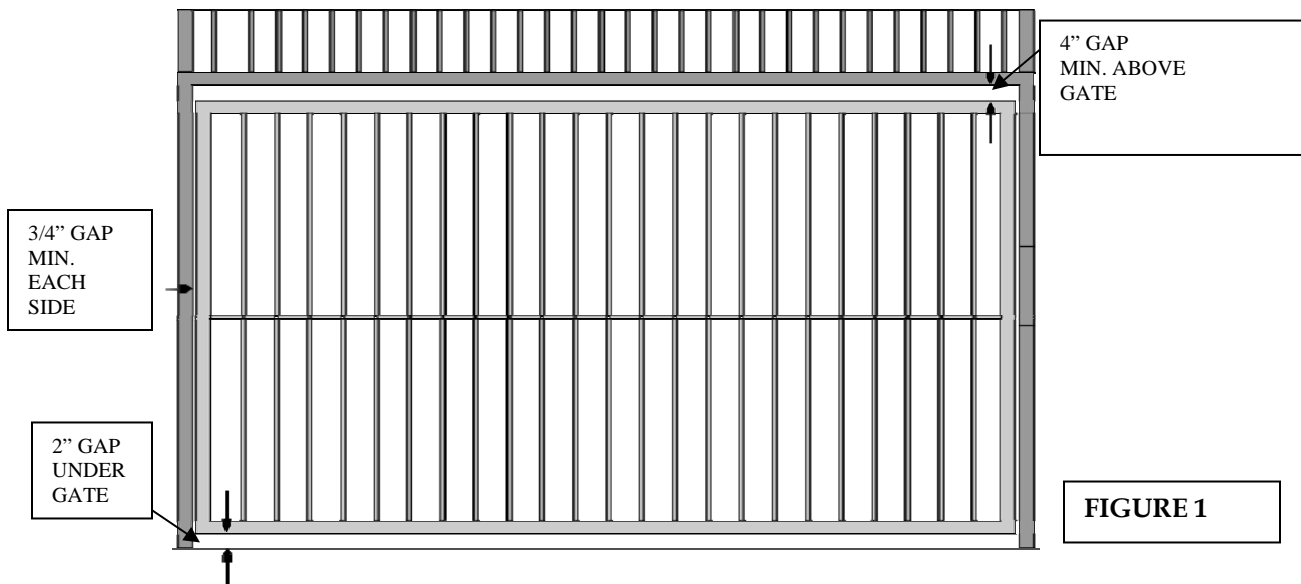

FIGURE 1
1.1. Before installing the jamb hardware you need to determine the opening, gate size and make sure the spacing shown in Fig. 1) is correct.
- 2.2. Place the gate in opening using shims under gate until it is correctly positioned and using a level across the top. Refer to **Fig. 1** and **Chart 1** for spacing around the gate.